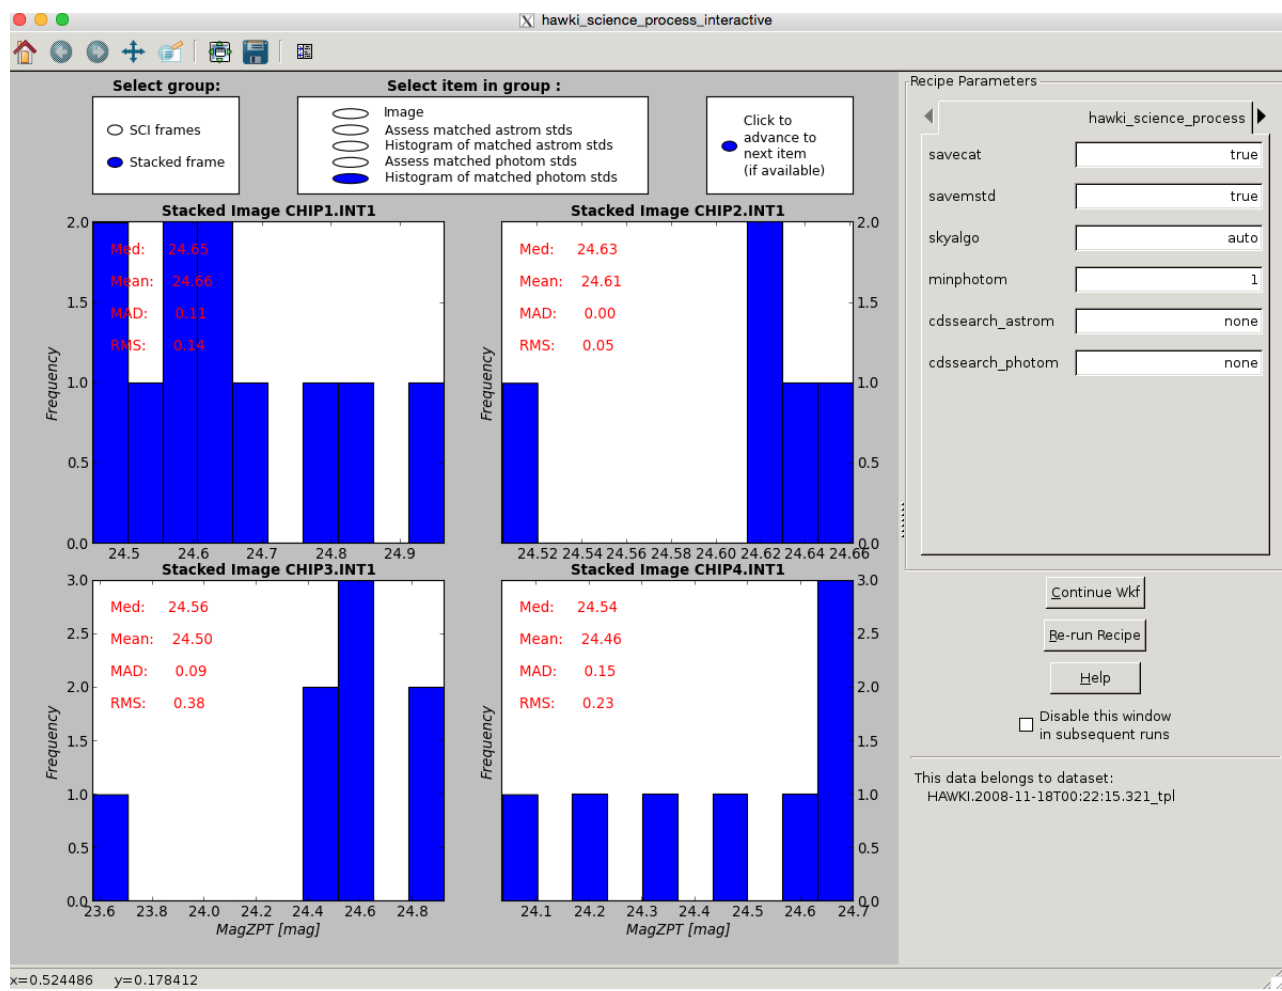

Figure 8.13: Example interactive window for evaluating the results of hawki_science_process; a histogram of magnitude zero points from Figure 8.12 are shown.
5. Histogram of matched photom stds (Fig.8.13): if the recipe parameter `savemstd` is set to `true` and "Stacked frame" is selected in the lefthand radio button box, this button shows a histogram of the magnitude zero points from the item above. All data points are split into 10 bins in the histogram. The x-axis of each panel is magnitude zero point in units of magnitudes; the y-axis is the frequency of occurrence. The red text in the upper left of each panel shows some statistical values describing the distribution of all the data points (median, mean, median absolute deviation, and rms deviation from the mean).